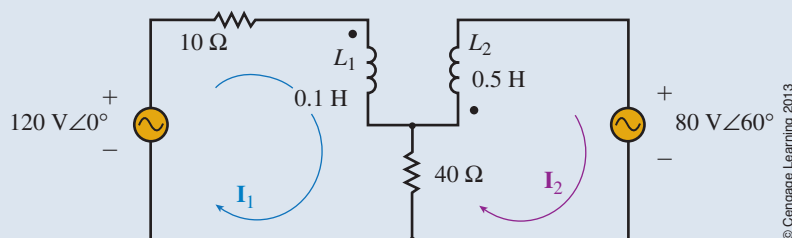

FIGURE 23-62 $M = 0.12 \text{ H}$, $\omega = 100 \text{ rad/s}$.
1. Refer to the circuit of Figure 23-62.